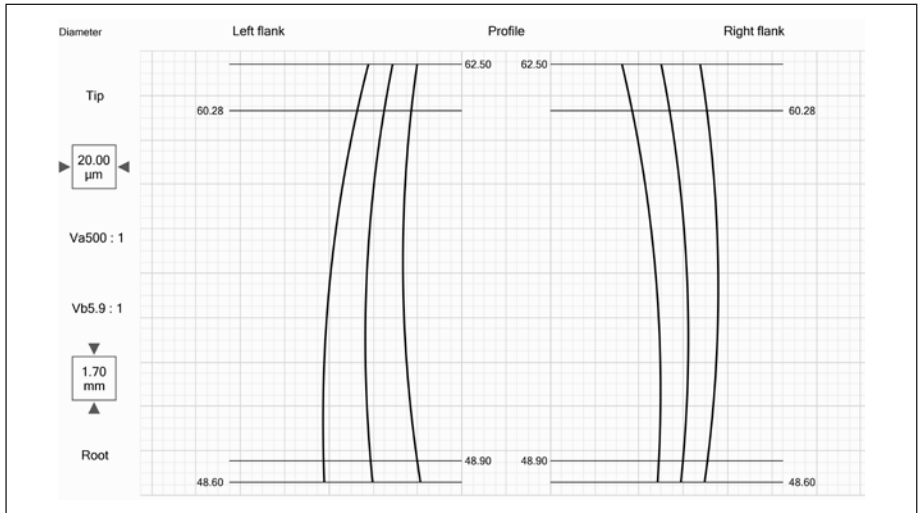

Figure 5—Profile and lead diagram, estimated by grinding control (values on axes are intentionally blank or without references).
- microgeometry estimated by grinding machine software applying a partial compensation method (Figure 5);